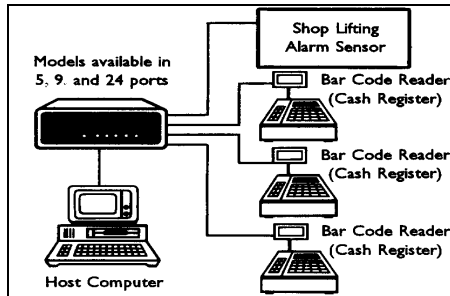

Figure 2: AC11 Series Application
The 524AC11(P) models have one host port and four peripheral ports. The 528AC11(P) models have one host port and eight peripheral ports. The Model 5218AC11P has one host port and seventeen peripheral ports. *Figure 2* on the following page shows a typical application using an AC11 Series multiport controller.